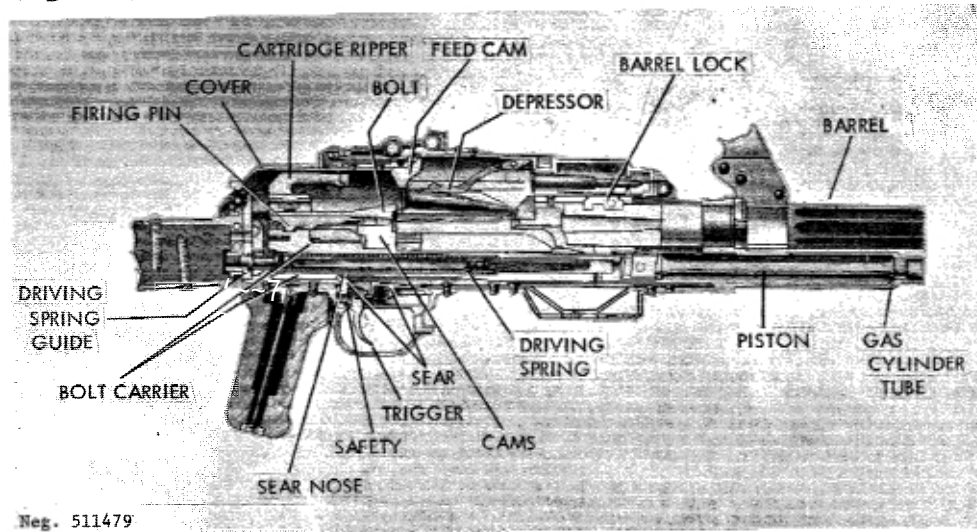

Figure 180. PK section.
b. When the trigger is pressed, its upper end, which hooks over the sear, revolves forward and downward to depress the sear (fig 180). The sear releases the bolt carrier, which, under the force
f. The cartridge gripper (fig 180) moves with the bolt carrier, and as the bolt carrier completes its forward movement, the grippers engage the rim of the cartridge that has been fed inward by the feed mechanism (e above). When the PK fires and the bolt carrier is driven rearward, the gripper extracts the cartridge from the belt and carries it to the rear. The depressor, working in conjunction with the feed cam (fig 180), forces the cartridge down, out of the gripper, and onto the feed lips. The bolt can then ram the cartridge into the chamber when the bolt counterrecoils.